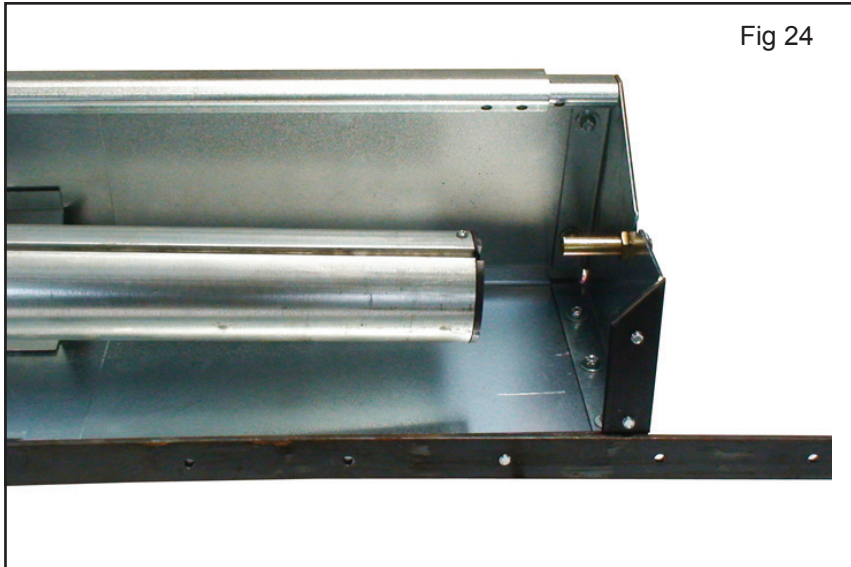

Fig 24
Step 12. Slide the motor end, (left side) back in place while installing the roller assembly on the stub shaft on the right side end plate (Fig 24 & 25). Re-install the bolts into the mounting bars to hold the assembly together.(Fig 26)